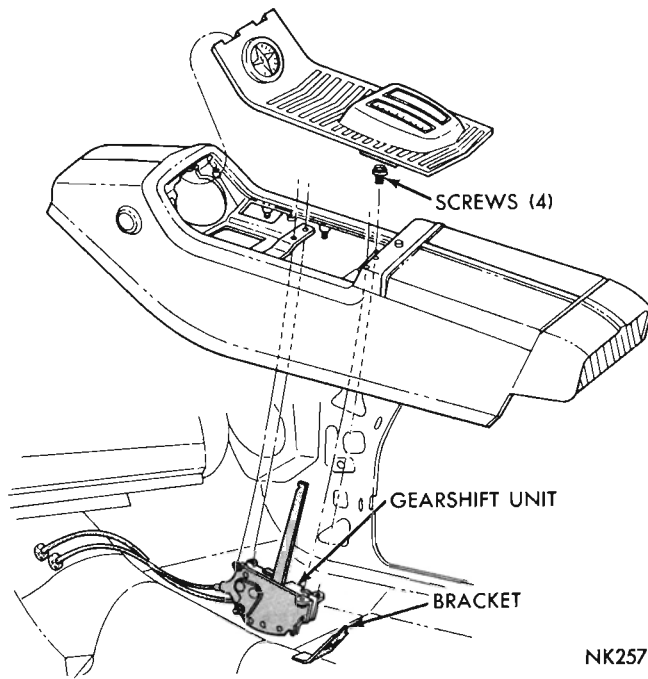

Fig. 22—Removing or Installing Console
(2) Remove the set screw from the gearshift lever knob and remove the knob.
(3) **AP-1, AP-2, AR-1, AR-2 Models:** Remove the screws from the rear end of the console upper finish plate (Fig. 22). Raise the rear end of the plate and work it rearward to disengage it from the front of the console. Lift the plate upward far enough to remove the dial lamp and socket, then lift off the plate. Remove the four gearshift unit to console retaining bolts.
(1) Attach the wires securely to the ends of the cables. Carefully guide the cables through the floor grommets while pulling upward on the wires. Securely attach the cables and housings to the gearshift unit. Connect the back-up lamp switch wires.
(2) **AP-1, AP-2, AR-1, AR-2 Models:** Place the gearshift unit on the temporary floor pan bracket to hold it in place while installing the console (Fig. 22).